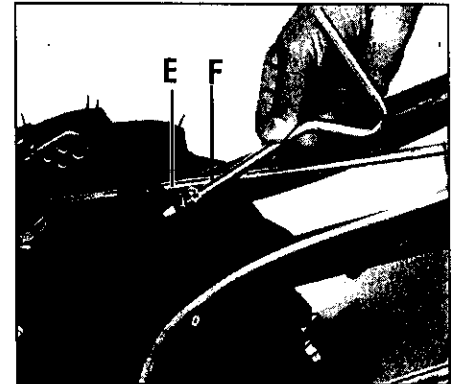

Figure 2-3: Install height adjustment handle.
4. Move the handlebar to align the hole in the cross-brace with one of the four slots in the curved height adjustment bracket. Place the keyed washer (E, Figure 2-3) on the height adjustment handle (F) with the raised keys (edges) on the keyed washer facing down.